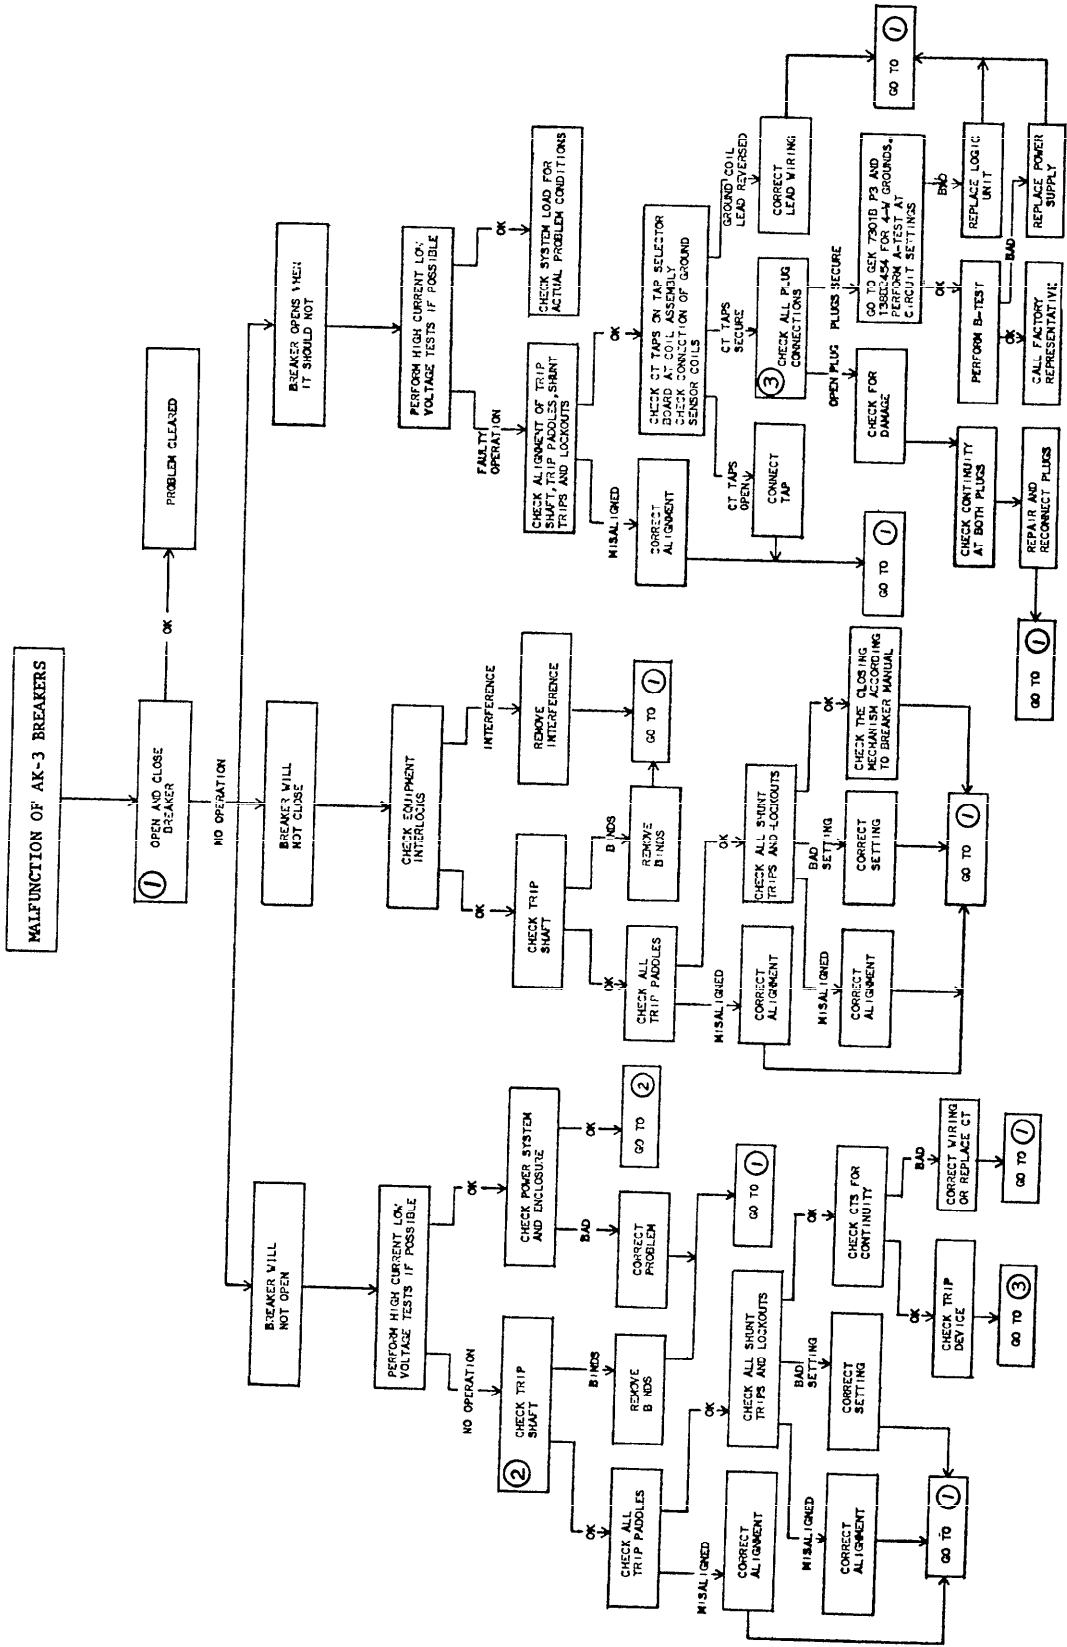

Figure 5. Chart I - Trouble shooting and service diagram.
1. Trouble shooting and service diagram, Figure 5, Chart I